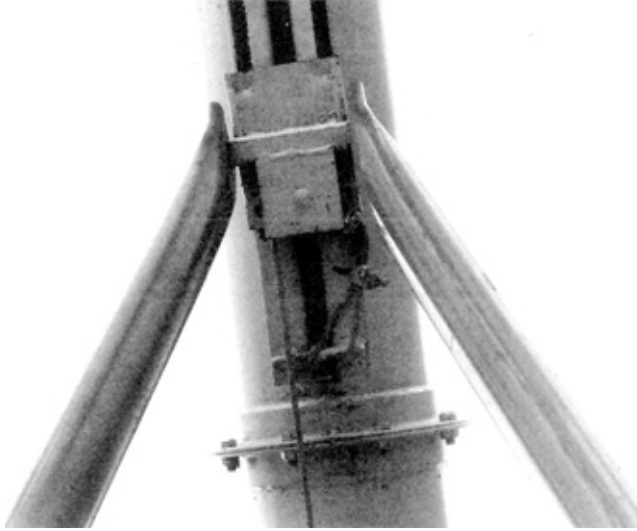

FIGURE 3. Cable Interference at Maximum Elevation.
**Discharge Height:** The discharge height could be varied from 2.9 to 8.1 m (9.6 to 26.7 ft) with the hand operated winch. Corresponding elevation angles ranged from 14° to 41°. At maximum elevation, the lift arm slide interfered with the cable clamp at the anchor point (FIGURE 3). It is recommended that the manufacturer make modifications to eliminate this interference.